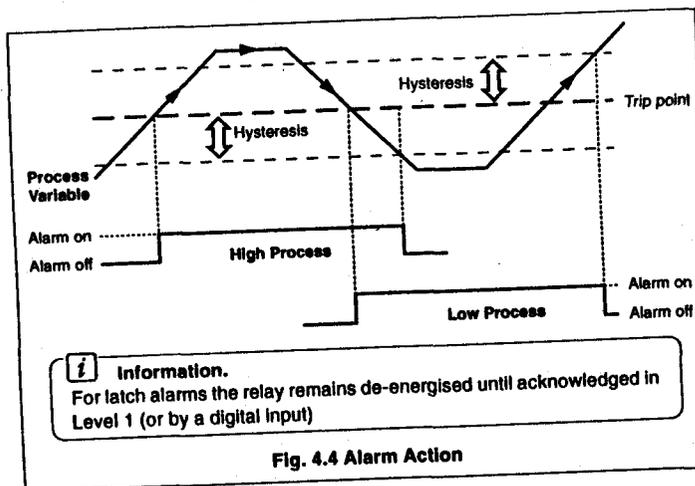

Fig. 4.4 Alarm Action
4.3.2 Alarms - Figs. 4.4 and 4.5